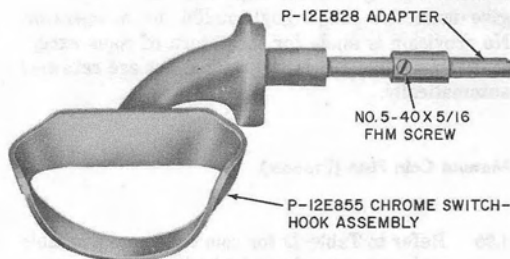

Fig 12—Two-Piece Switchhook Assembly
**2.33** Later models of coin collectors have 2-piece, chrome-plated P-12E855 switchhook assemblies (Fig. 12).